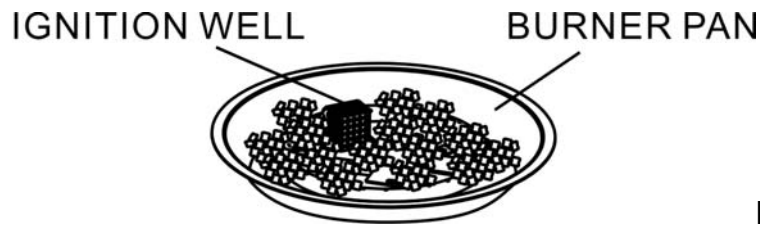

Figure 4
4. Pour ALL the provided media (fire ice or lava rock) into the burner pan. Burner MUST be completely covered to ensure appliance function properly and safely. Remove any lava rocks or fire ice on top of the ignition well. See figure 4.